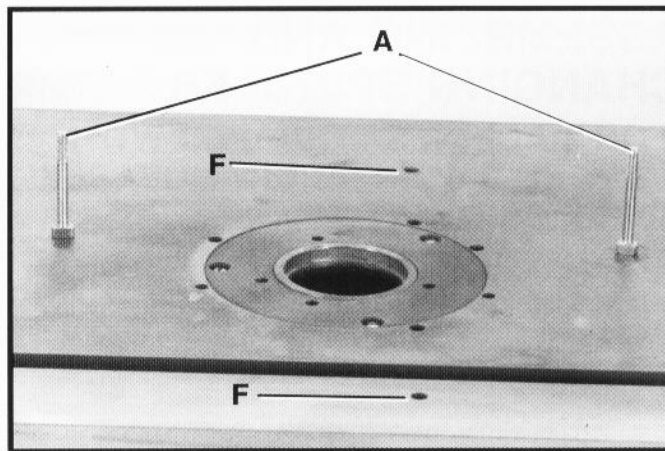

Fig. 8
1. Thread the small end of the two studs (A) Fig. 8, into the two holes in the shaper table as shown. Threading the studs in this position allows the fence to be mounted parallel to the miter gage slot. The fence also can be mounted so it is 90 degrees to the miter gage slot by threading studs (A), into the holes (F).